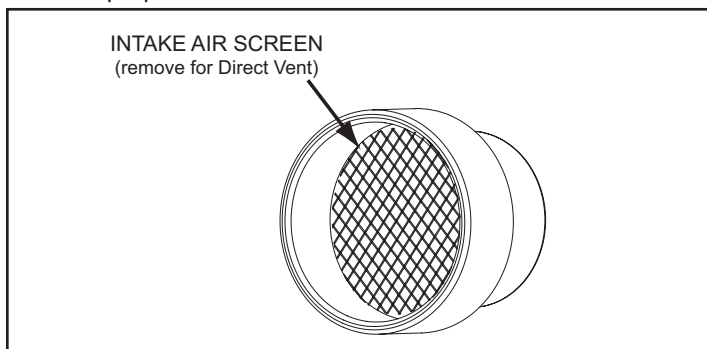

Figure 17. Intake Air Screen
12. Ensure the Intake Air Screen on the Intake Air Connection is removed before connecting the intake air pipe to the water heater. See *Figure 17*.